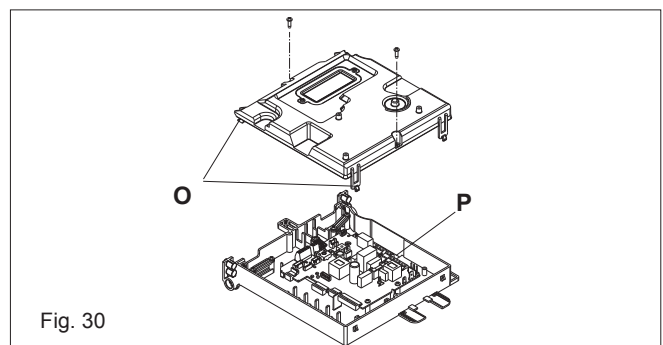

Fig. 30
7.18 PRINTED CIRCUIT BOARD (FIG. 30)